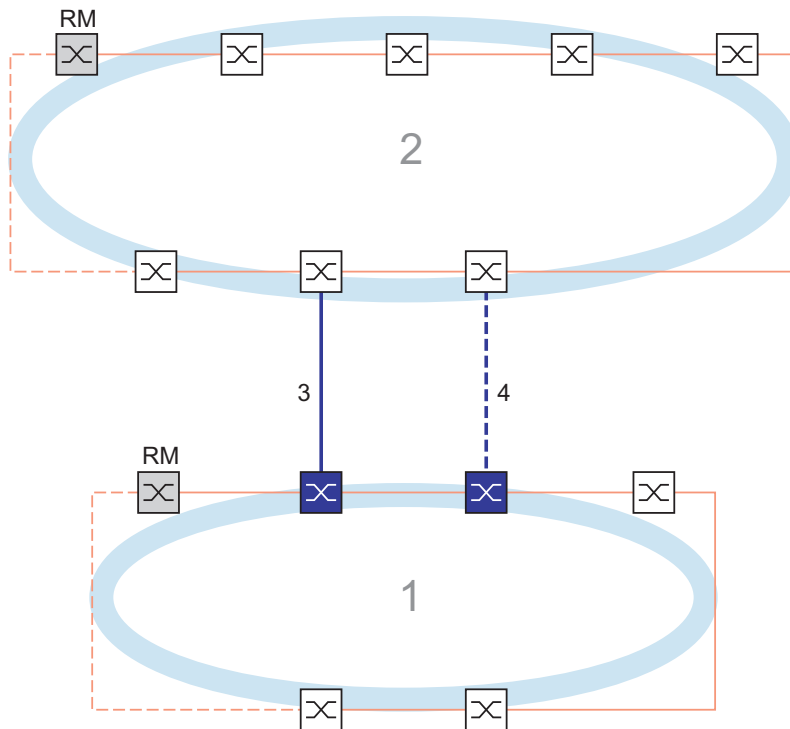

Figure 48: Example of Two-Switch coupling
One port each from **two** devices in the first ring/network connect to one port each of two devices in the second ring/network segment (see figure 48).
- If you connect to a bus or mesh structure, then select the *network coupling* radio button.The *Coupling mode* describes the type of the backbone network to which you connect the ring network (see figure 48).